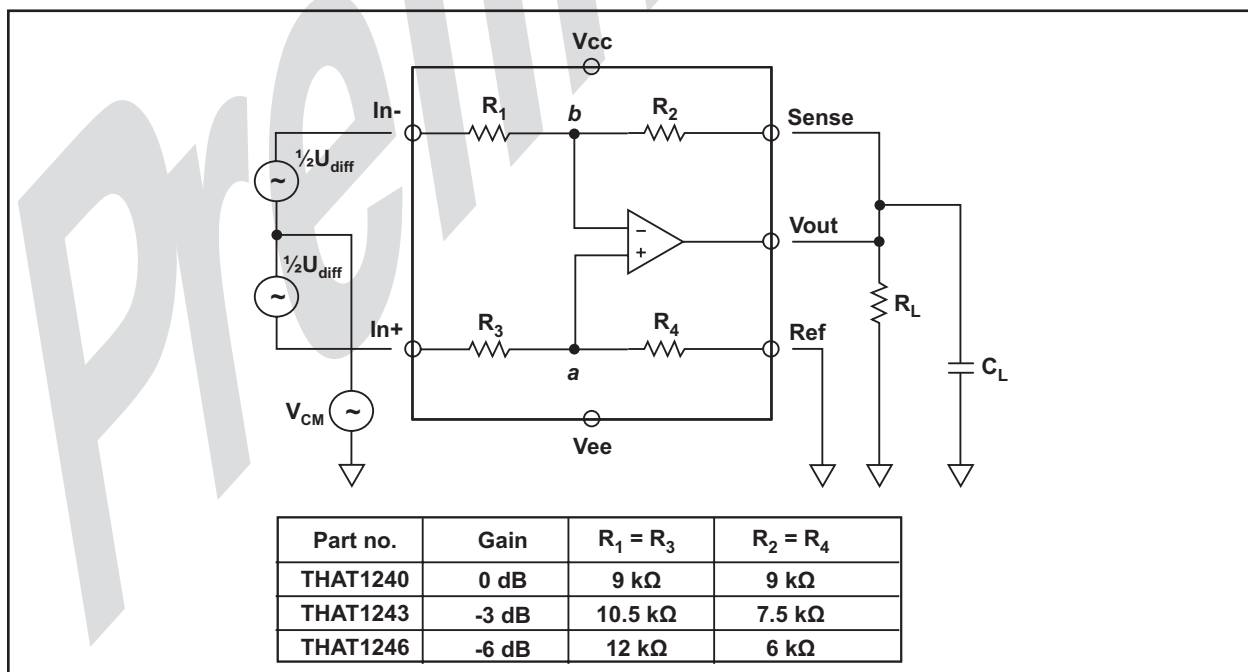
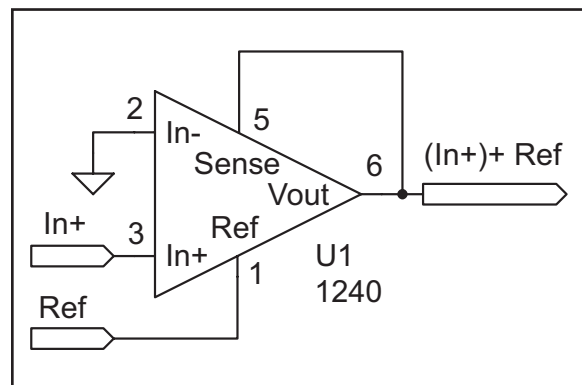

Figure 2. THAT1240 series test circuit
Figure 5. Precision summing circuit
- See test circuit in Figure 2.
Like other amplifiers of this type, all of THAT Corporation's line receivers can accept common mode voltages that exceed the power supply rails. Consider Figure 2. Assume that the circuit is configured as shown, but with no differential excitation. In+ and In- are shorted together, as are Vout and Sense. Ref is tied to ground. a and b will be held at the same voltage by feedback.
Figure 5 shows a THAT 1240 configured as a precision summing amplifier. This circuit uses both the In+ and Ref pins as inputs. Referring to Figure 2, it can be shown by superposition that the voltage at a will be